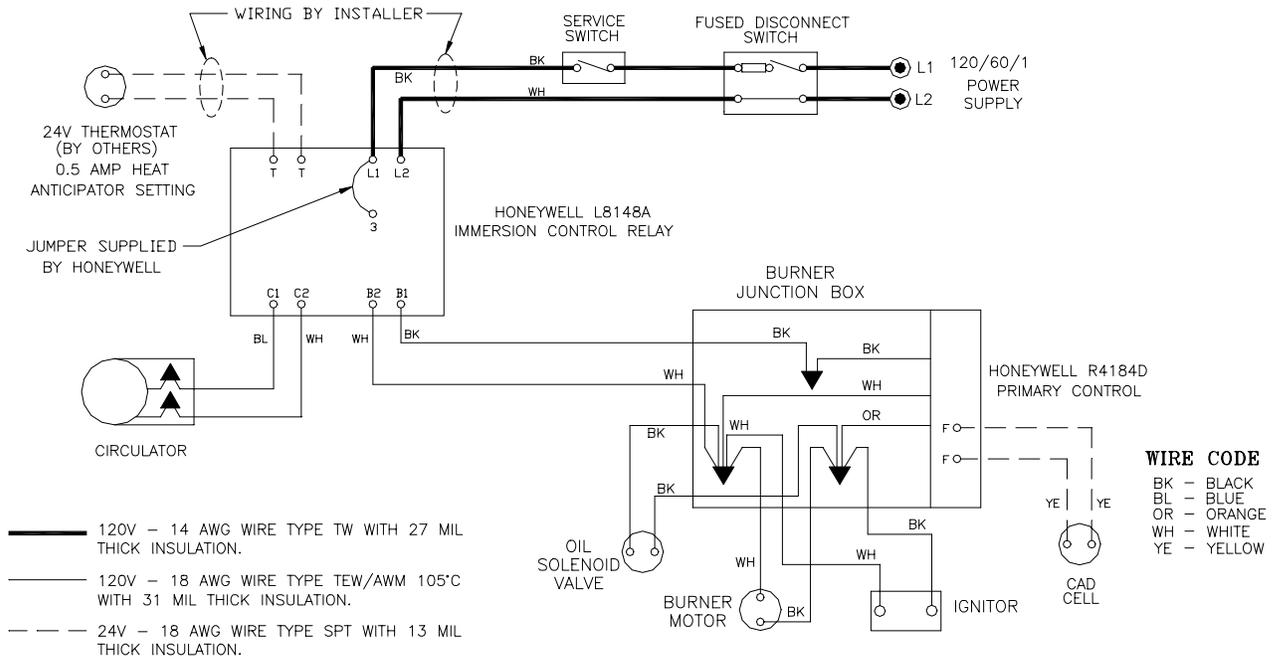

Figure 10: Wiring Diagram for Water Boilers with Beckett AFG Burner and Controls, without Tankless Heater
3. Wiring should conform to Figure 10 and/or 11.
3. Use armored cable (BX) over all exposed line voltage wiring.
5. Single Zone System – Connect the system circulator wire leads to the proper locations on the Aquastat control, L8124C/L8148A. See Figure 10 or 11. Connect the thermostat to the ‘T-T’ terminals on the L8124C/L8148A control. Set thermostat heat anticipator settings to 0.60 amps.
7. Conventional Zone Valve Zoned System – Locate C1 and C2 inside the L8124C Honeywell control. Connect the two (2) terminals to the system circulator wire leads, supplied with boiler. Connect the H1 and H2 terminals inside the R8889 to the ‘T-T’ terminals in the L8124C Honeywell Control.